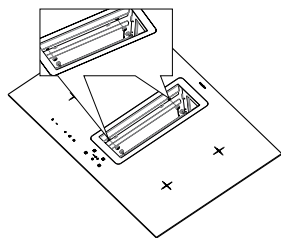

Fig. 18
6. There shall be 4 mounting screws in the interior section of the exterior container. Mount the exterior container with 4 screws (Fig. 18).